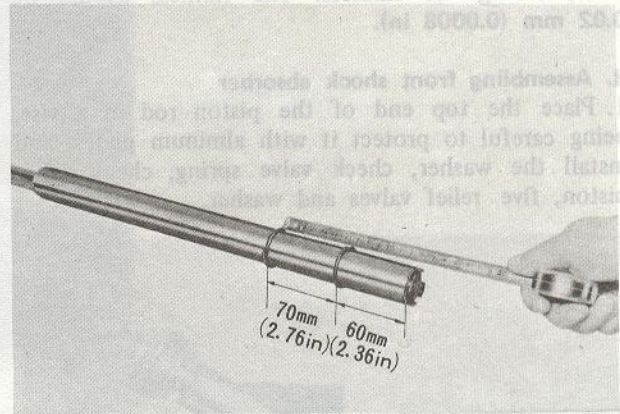

Fig. 13-35 Installing oil stop rings
11. Install the two oil stop rings onto the bottom side of the pressure tube as shown in Fig. 13-35.